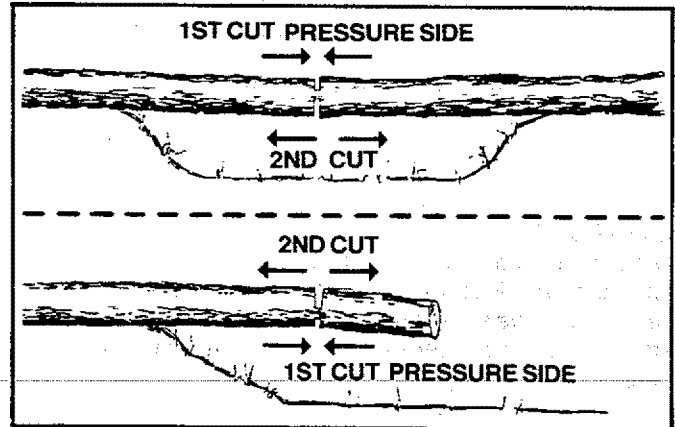

Figure 31
- Give special attention to logs under strain to prevent the saw from pinching. Make the first cut on the compression side to relieve the stress on the log. (Figure 31)